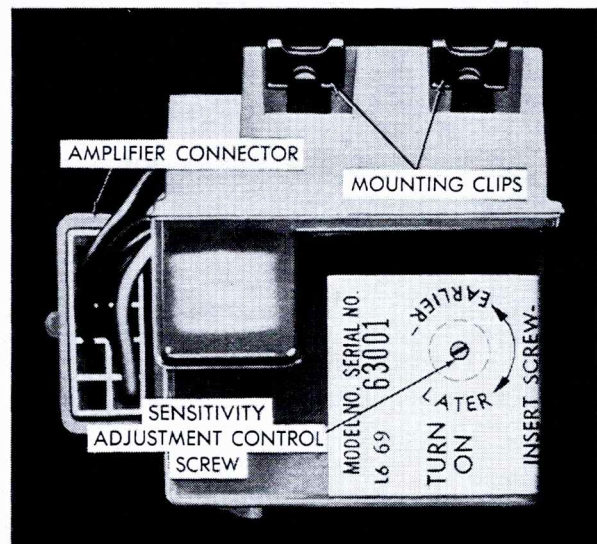

Fig. 15-48 Sensitivity Adjustment Control Screw
2. Adjust amplifier sensitivity control clockwise (through serial label on end of amplifier) to end of rotation. (See Fig. 15-48)